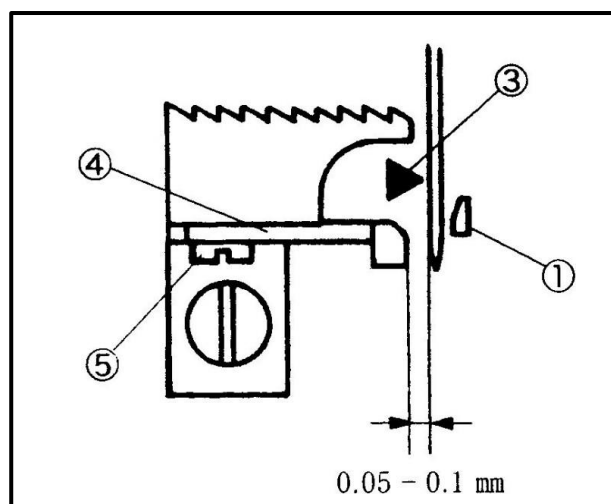

Fig.58
Make the standard clearance between the needle guard (rear) ④ and the left needle to 0.05-0.1 mm when they meet most closely. Open the looper cover and loosen the screw ⑤ to adjust it. (Fig.58)